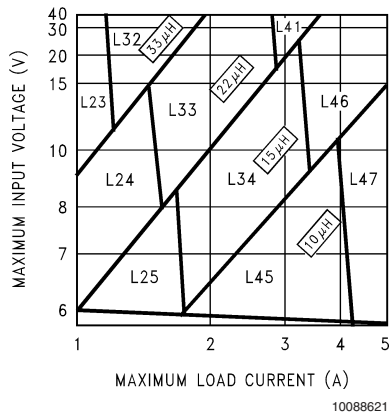
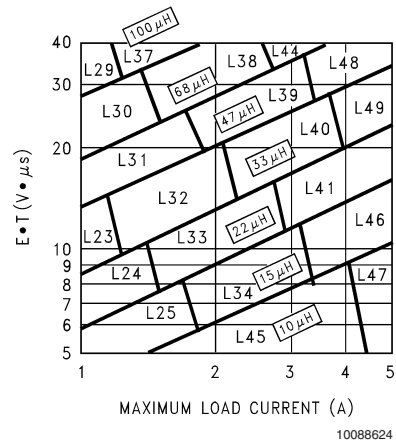

FIGURE 3. LM2678-3.3
FIGURE 6. LM2678-ADJ
Step 3: Determine the inductor required by using one of the four nomographs, *Figure 3* through *Figure 6*. Table 1 provides a specific manufacturer and part number for the inductor.
Step 5: Determine an input capacitor from Table 4 for fixed output voltage applications. Use Table 2 to find the specific capacitor type. For adjustable output circuits select a capacitor from Table 2 with a sufficient working voltage (WV) rating greater than $V_{in\ max}$, and an rms current rating greater than one-half the maximum load current (2 or more capacitors in parallel may be required).
Step 3: Use the nomograph for the 3.3V device, *Figure 3*. The intersection of the 16V horizontal line ($V_{in\ max}$) and the 4A vertical line ($I_{load\ max}$) indicates that L46, a 15μH inductor, is required.
Step 3: To use the nomograph for the adjustable device, *Figure 6*, requires a calculation of the inductor Volt•microsecond constant ($E \cdot T$ expressed in $V \cdot \mu s$) from the following formula:
Using *Figure 6*, the intersection of 27V•μs horizontally and the 3.5A vertical line ($I_{load\ max}$) indicates that L48, a 47μH inductor, or L49, a 33μH inductor could be used. Either inductor will be suitable, but for this example selecting the larger inductance will result in lower ripple current.
Important Note: When using the adjustable device in low voltage applications (less than 3V output), if the nomograph, *Figure 6*, selects an inductance of 22μH or less, Table 6 does not provide an output capacitor solution. With these conditions the number of output capacitors required for stable operation becomes impractical. It is recommended to use either a 33μH or 47μH inductor and the output capacitors from Table 6.